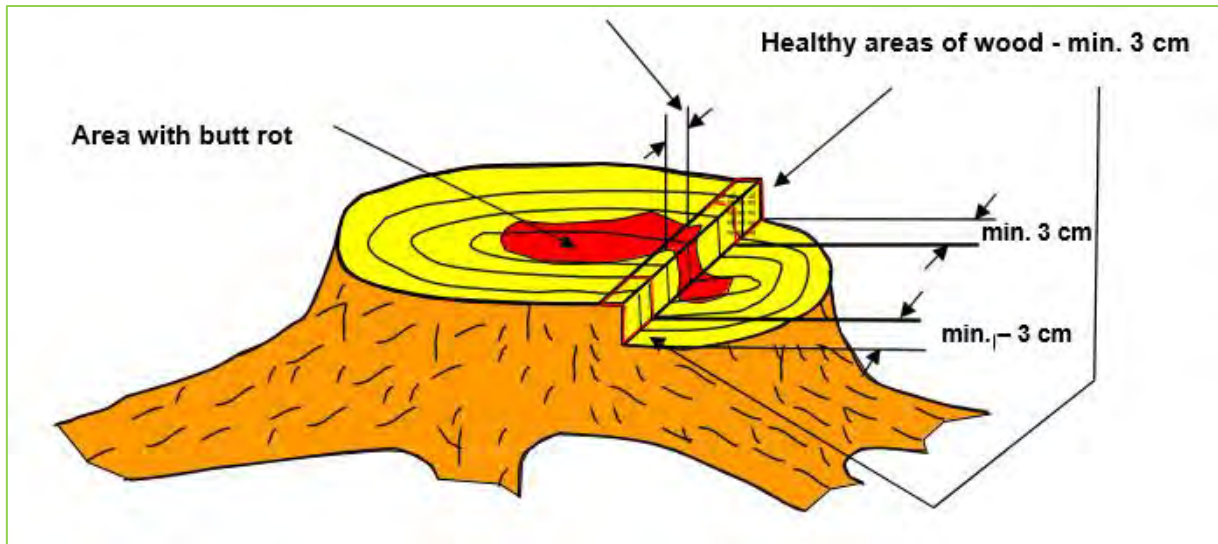

Figure 19: Tree conforming to regulations in terms of area affected by butt rot
In terms of butt rot, according to the regulations a tree should have the following properties (see figure 19):
- Any areas of rot within the hinge must not cover more than 1/3 of the hinge (see figure 19).